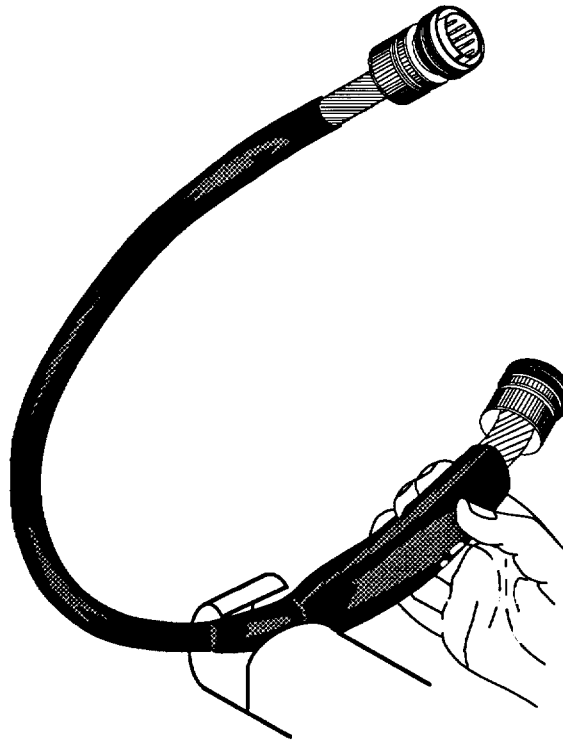

Figure 4. Heat Shrink Tubing Installation
- Starting at the inside and working toward connector end, shrink tubing with heat gun and reflector (Figure 4)